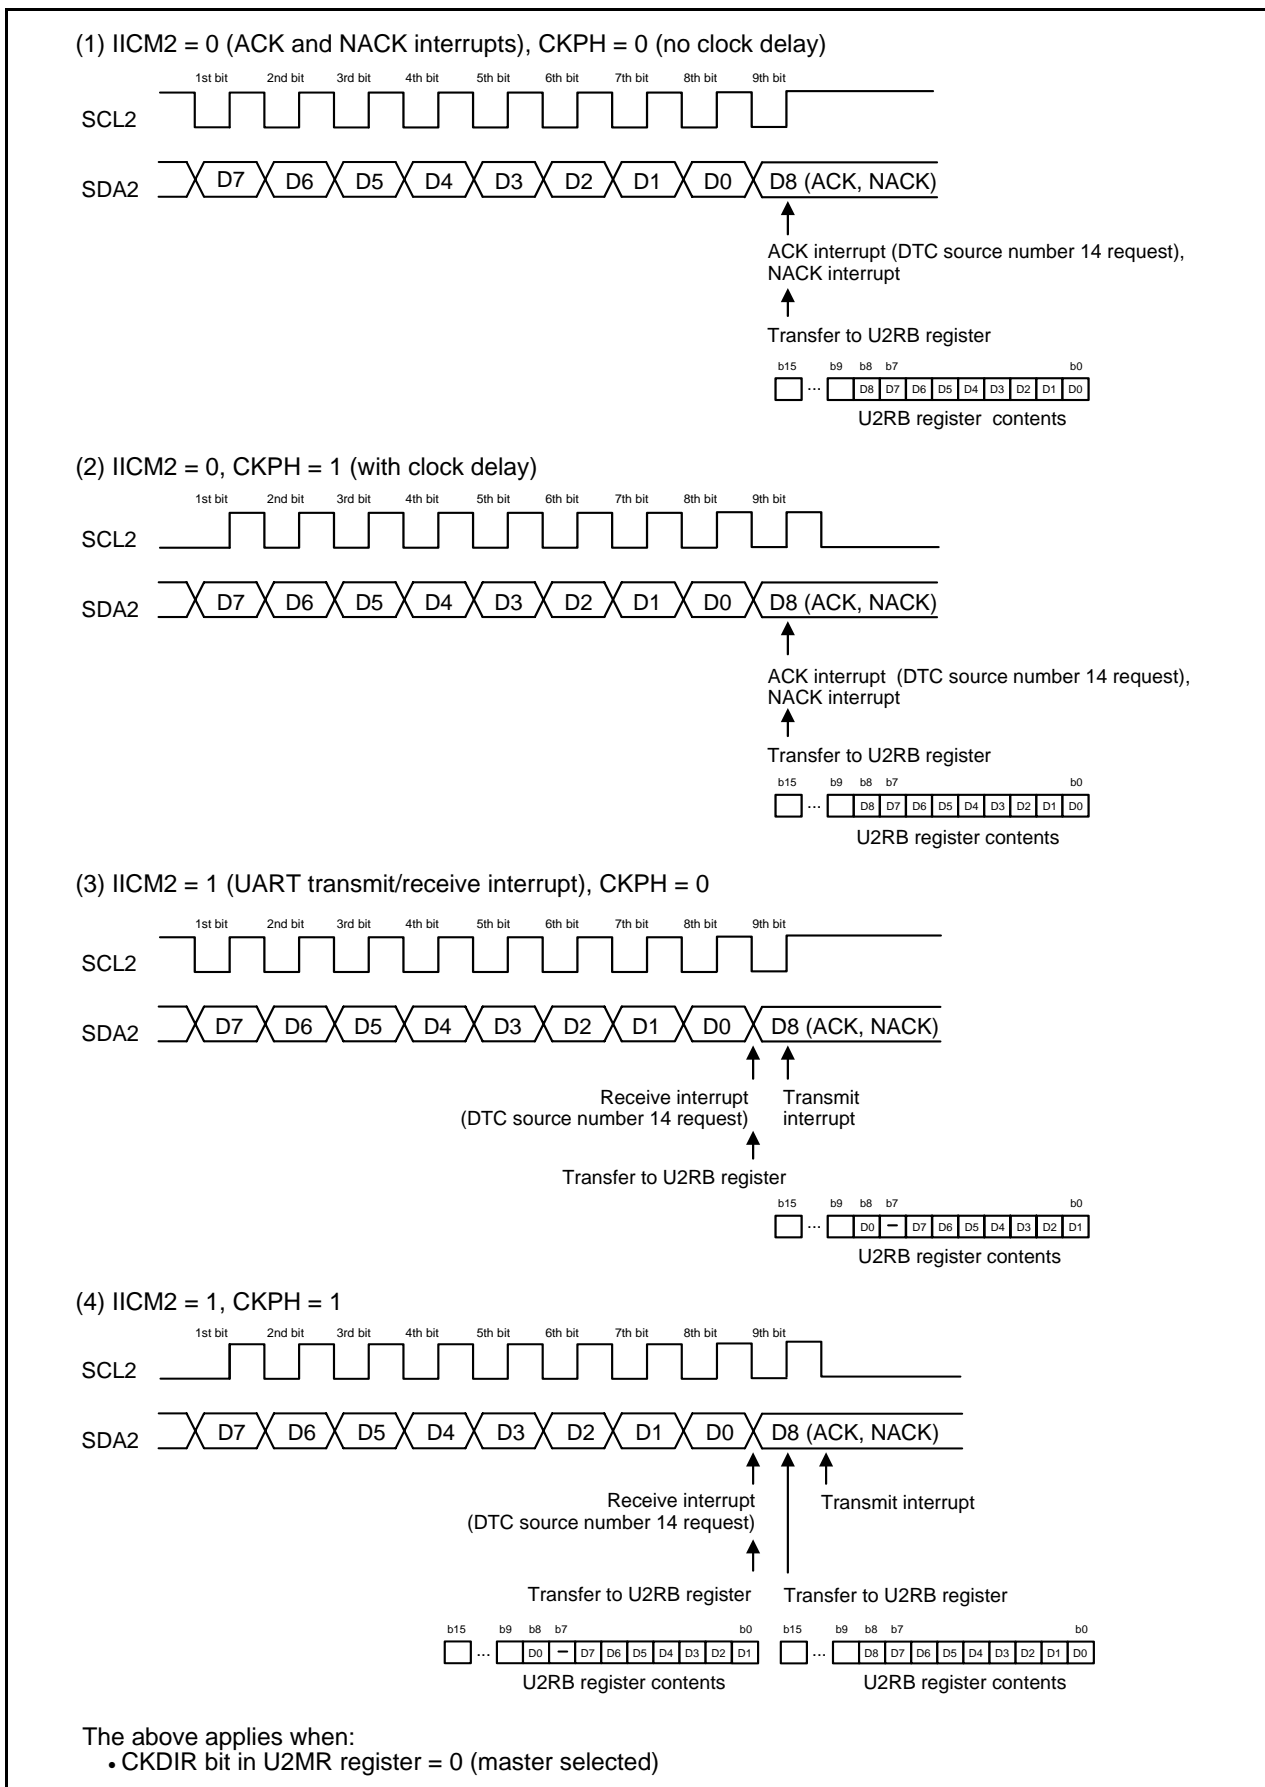

Figure 25.14 Transfer to U2RB Register and Interrupt Timing
I²C mode is provided for use as a simplified I²C interface compatible mode. Table 25.9 lists the I²C Mode Specifications. Tables 25.10 and 25.11 list the registers used in I²C mode and the settings. Table 25.12 lists the I²C Mode Functions, Figure 25.13 shows an I²C Mode Block Diagram, and Figure 25.14 shows the Transfer to U2RB Register and Interrupt Timing.
- Refer to **Figure 25.14 Transfer to U2RB Register and Interrupt Timing**.
The transfer clock is used to transmit and receive data as is shown in **Figure 25.14 Transfer to U2RB Register and Interrupt Timing**.